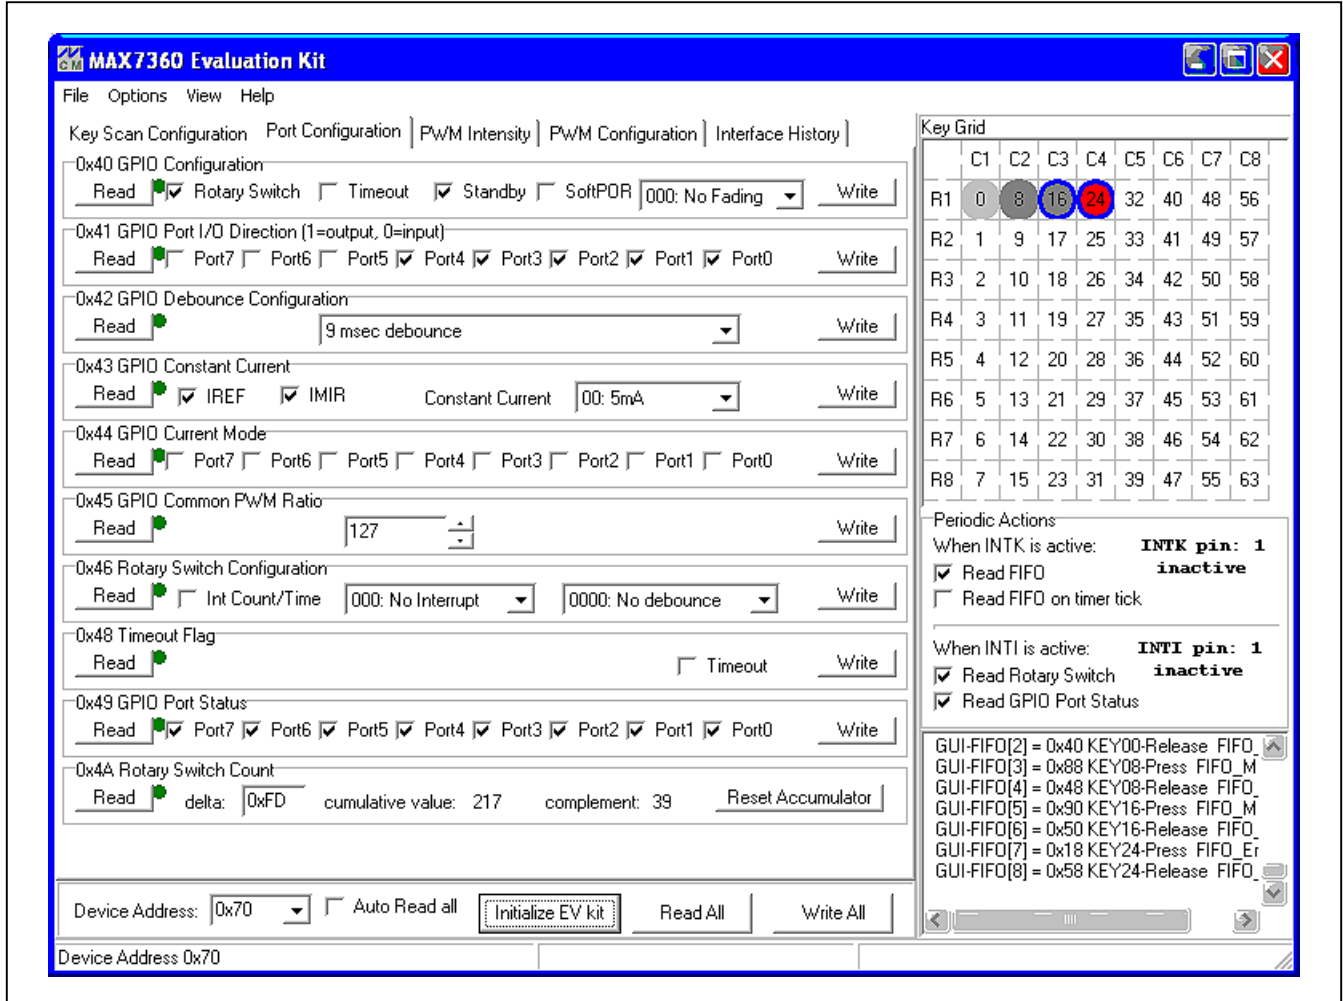

Figure 2. MAX7360 EV Kit Software Main Window (Port Configuration Tab)
- 11) *Rotary Encoder Demonstration:* Select the software's **Port Configuration** tab (Figure 2), and then turn the EV kit's rotary encoder (RE67). Interrupt  $\overline{\text{INTI}}$  triggers the software to read the shaft encoder delta, which is accumulated and reported by the software. (**Note:** The mechanical detents on the shaft encoder only approximate the actual encoding positions.)